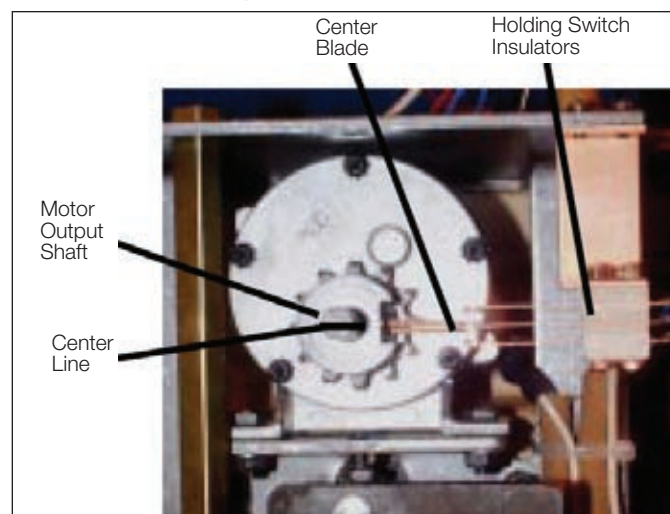

Figure 3. Holding Switch and Motor.
1. The center blade of the holding switch must be aligned with the center line of the motor output shaft. This adjustment must be the first adjustment made after installation. To align the blade, use a pair of needle nose pliers to grip the center blade up against the holding switch insulators. See Figure 3. Adjust the blade to the center line of the motor by bending the blade up or down as necessary. Check the alignment by eyeing the blade, not the paddle, to the center line of the motor output shaft.